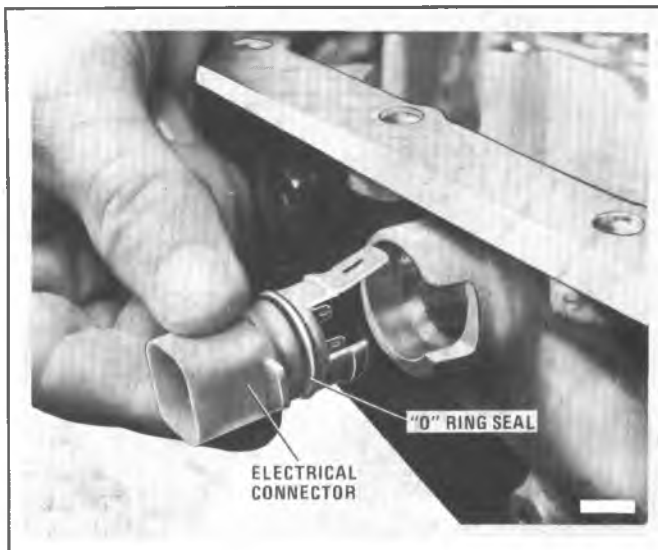

Figure 7A6-225 Installing Electrical Connector
1. Lay the control valve assembly machined face up, with the manual valve at the top as shown in Figure 7A6-226.